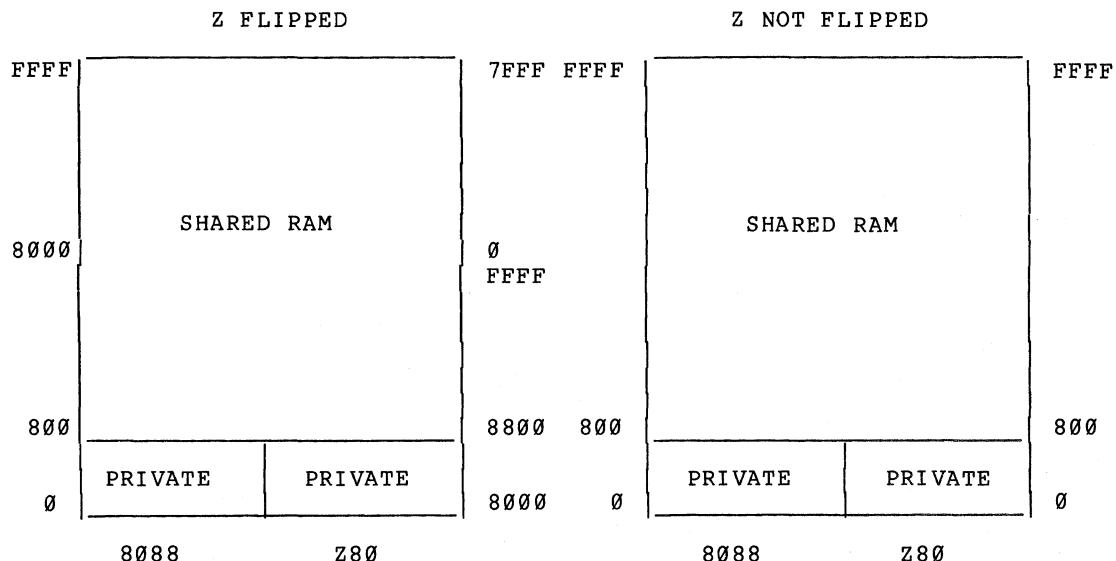

Figure 8. Z80A Memory Map
3.1.5.5 Z80A Memory Map - The Z80A memory map is shown in Figure 8.